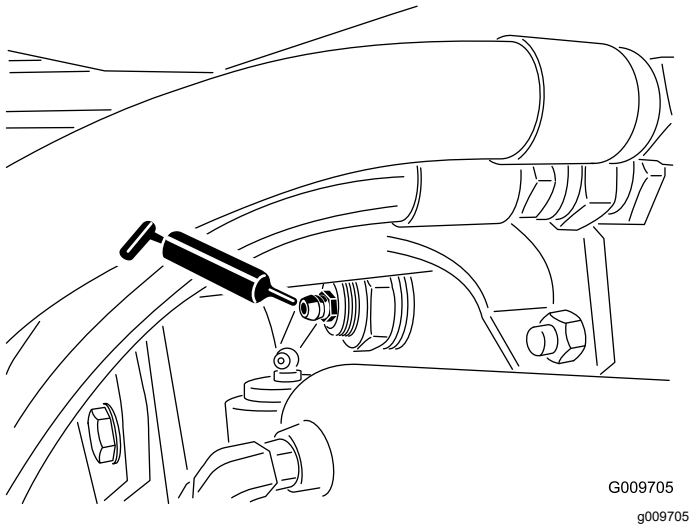

Figure 82
- Rear axle pivot bushings (2) (Figure 82)